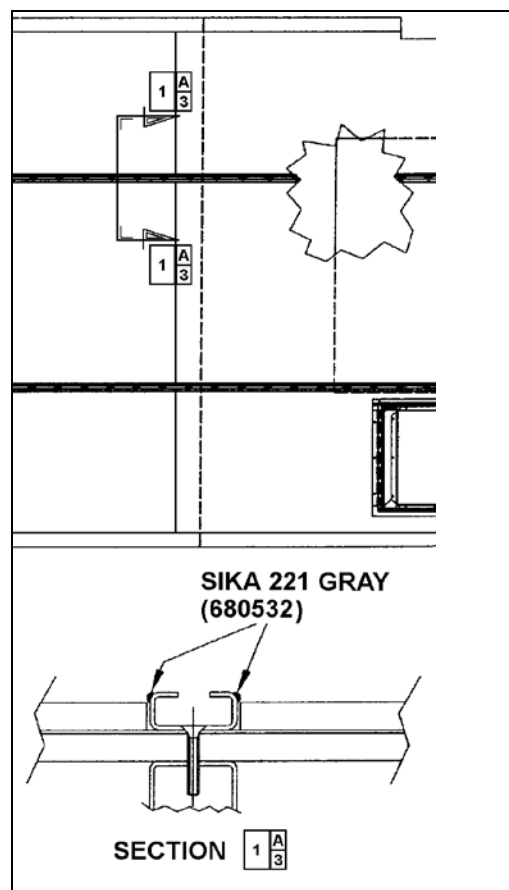

FIGURE 86: APPLICATION OF SIKA 221 GRAY
8. Apply Sikaflex 221 gray sealant (680532) alongside passenger seat fixing tracks (refer to Figure 86).